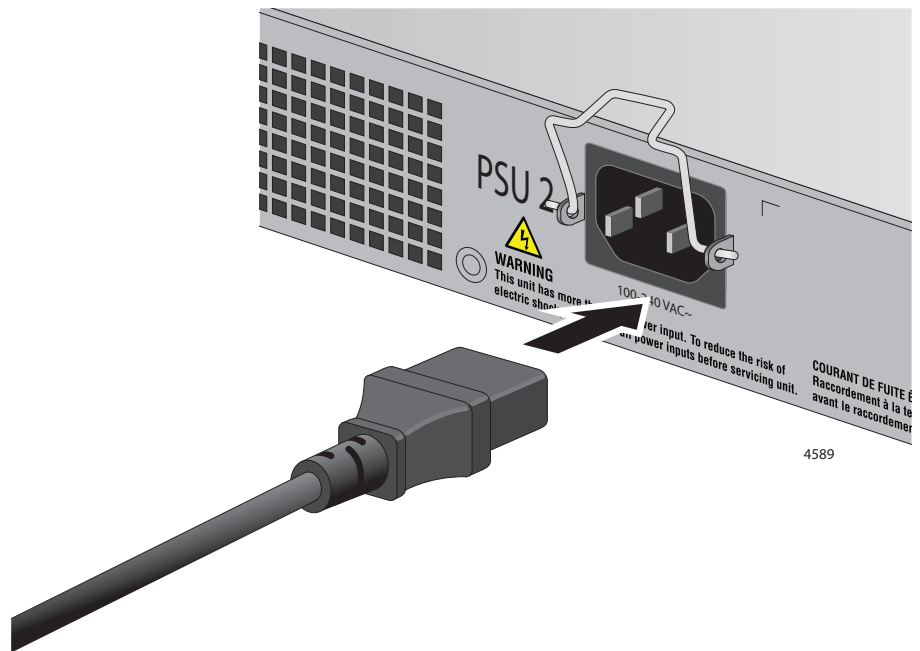

Figure 61. Connecting the AC Power Cords
2. Connect the AC power cord to the AC power connector on the rear panel. Refer to Figure 61 on page 103.